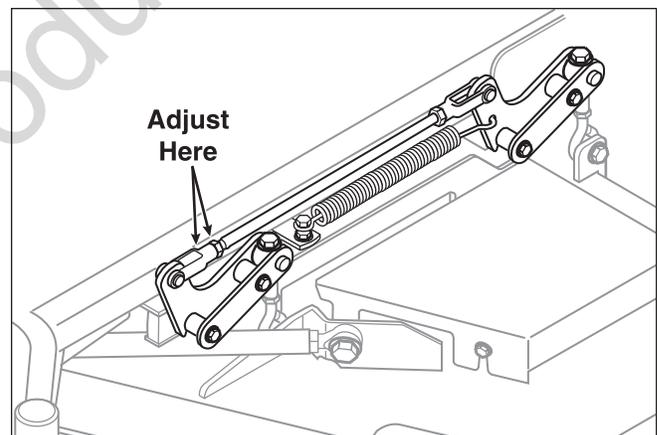

Figure 41. Adjust Lift Rod Timing
7. See Figure 41. To adjust the lift rod, loosen the jam nut on the front clevis then remove the 1/2" clevis pin fastening the clevis to the lift pivot arm. Turn the clevis **clockwise** to shorten the distance between the rod pivots or **counter-clockwise** to lengthen the distance between the rod pivots. Reinstall the clevis on the lift pivot arm and secure with the 1/2" clevis pin previously removed. Tighten the jam nut against the clevis.